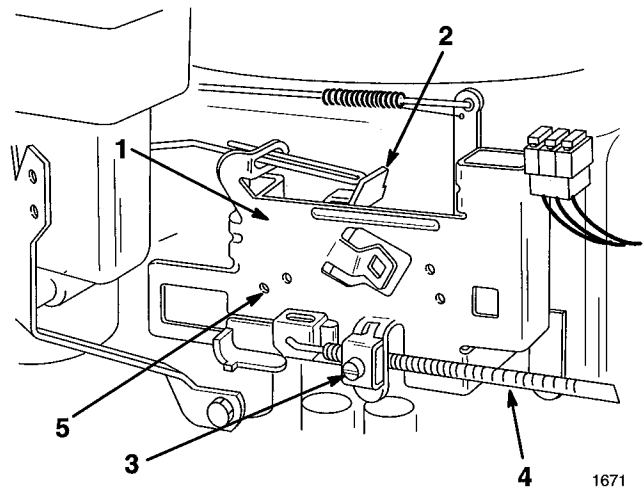

Figure 23
- B. With the throttle in the "FAST" position, index holes in the governor control lever and the governor plate must align (Fig. 23). If they do not align, refer to step 4 for adjustment procedure.
- B. Loosen the throttle cable clamp screw until you can slide the throttle cable casing (Fig. 23).
- C. Move the throttle cable casing until the index holes in the governor control lever and the governor plate align (Fig. 23). Now tighten the cable clamp screw.